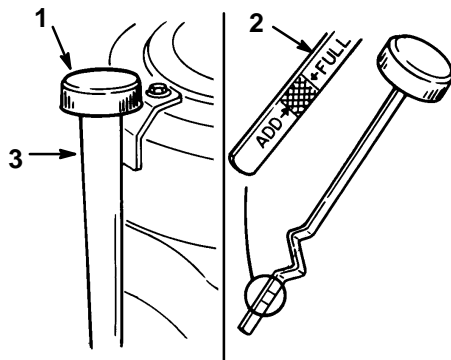

Figure 25
2. Clean around the oil dipstick (Fig. 25) so dirt cannot fall into the filler hole and damage the engine.
3. Unscrew the oil dipstick and wipe the metal end clean (Fig. 25).
4. Slide the oil dipstick fully into the filler tube, do not thread onto tube (Fig. 25). Pull the dipstick out and look at the metal end. If oil level is low, slowly pour only enough oil into the filler tube to raise the level to the “FULL” mark.
5. Slowly pour approximately 80% of the specified amount of oil specified, page 27, into the filler tube (Fig. 25). Now check the oil level; refer to Checking Oil Level, page 28. Slowly add additional oil to bring to “FULL” mark on dipstick.